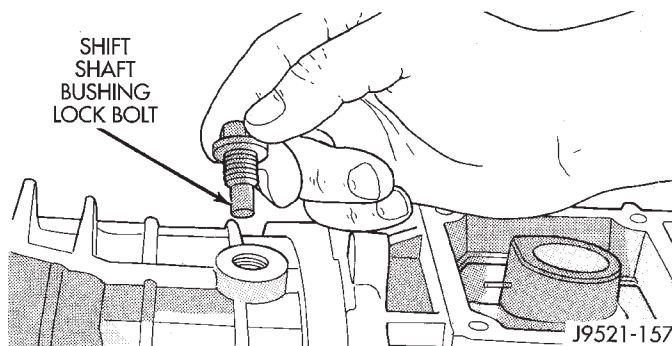

Fig. 124 Installing Shift Shaft Bushing Lock Bolt
(12) Install shift shaft bushing lock bolt (Fig. 124). Apply Mopar® Gasket Maker, or equivalent, to bolt threads, shank and underside of bolt head before installation.